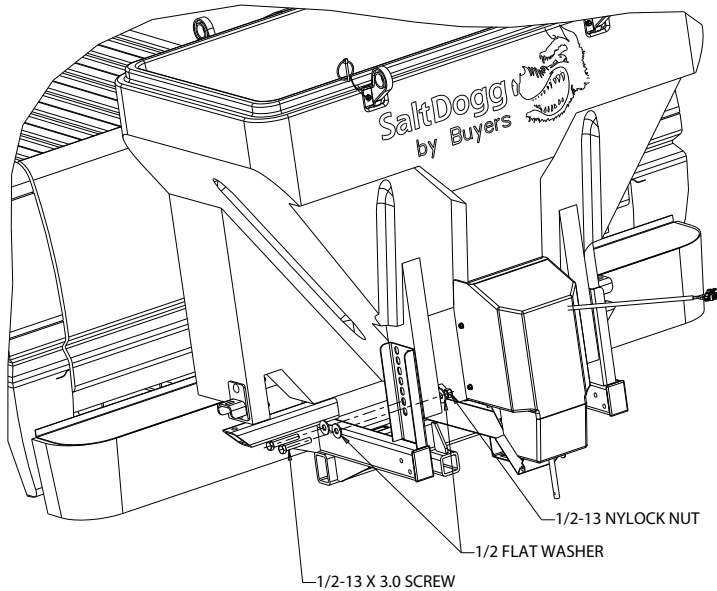

Fig. 3
3. Align holes in rear portion of the hopper with slots in frame uprights. Use slots which will position spreader horizontally or tilt it slight upwards. Secure hopper assembly to frame using 1/2-13 x 3.0 screws, flat washers and nuts. Fig.3. Do not tighten fasteners at this time.